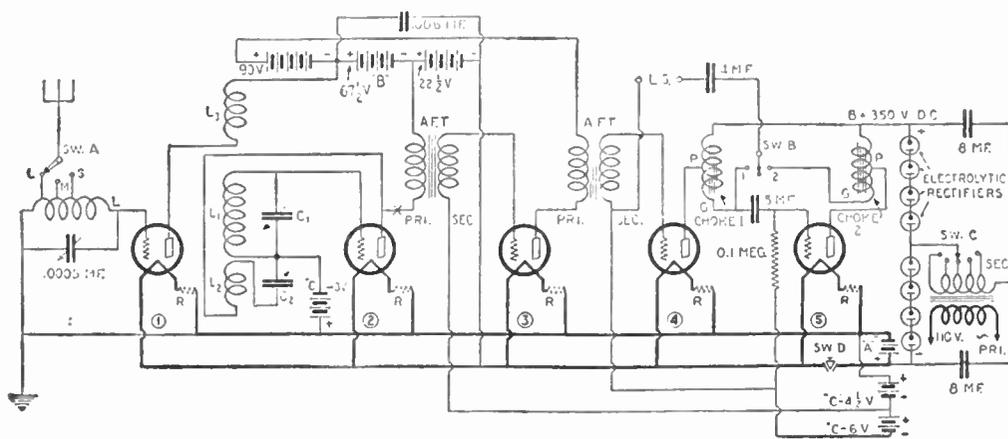

Fig. 154. An unusual circuit employing the use of electrolytic rectifiers to supply B voltage for the places of the last two amplifier tubes.
A. 1. We believe you will find the circuit shown in the diagram will meet your requirements. (See Fig. 154.)